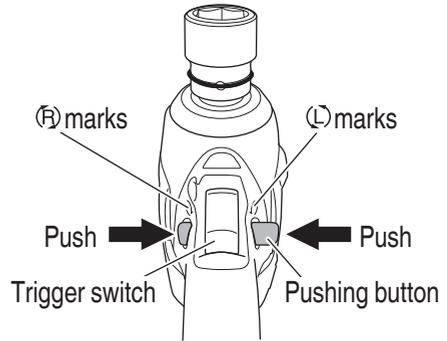

Fig. 10
The L-side of the pushing button is pushed to turn the bit counterclockwise. (See Fig. 10). (The (L) and (R) marks are engraved on the body.)